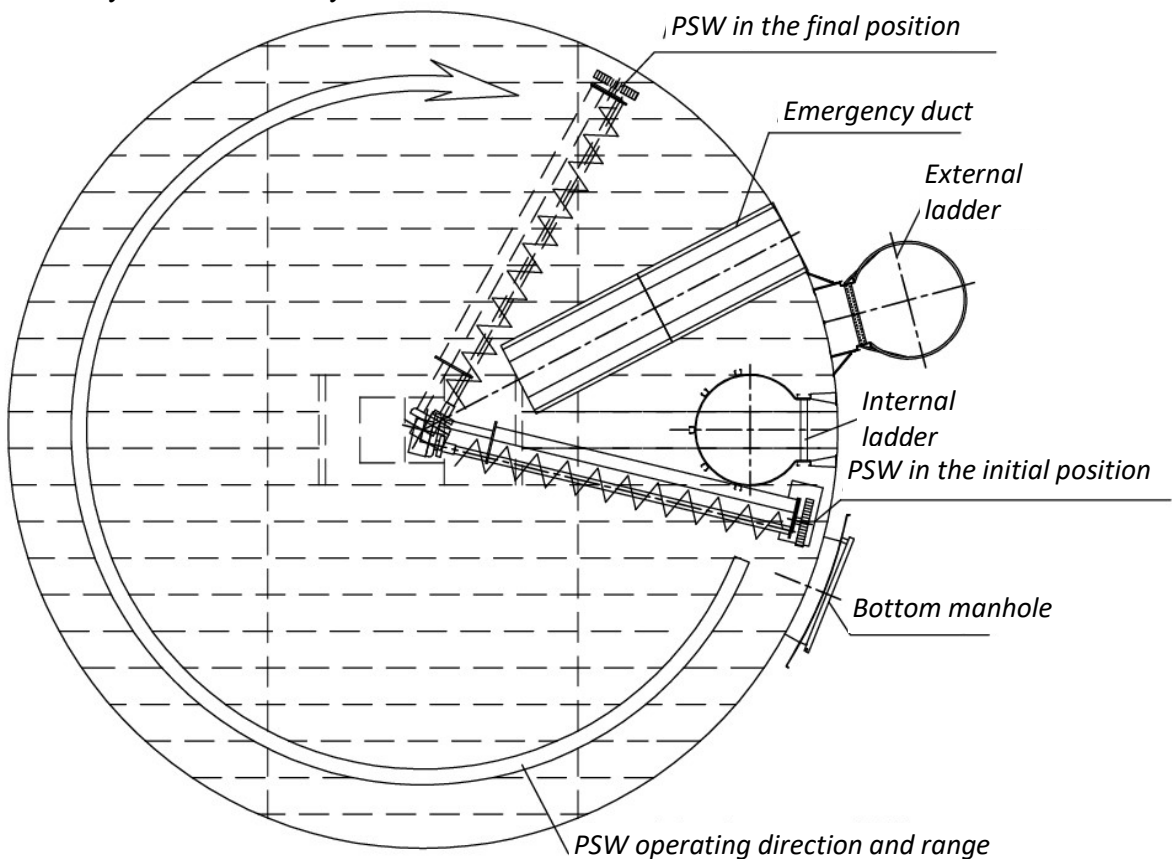

Figure 9. A diagram showing the PSWEX conveyor setting in a silo equipped with an internal ladder and an on-floor emergency duct.
- In silos equipped with an internal ladder, an emergency duct, or similar equipment, the conveyor performs the incomplete rotation in the silo (Figure 9). PSWEX stops to operate before devices installed in the silo, after driving onto the braking wedge (Figure 1, Item 22). The reverse movement of the PSWEX conveyor is necessary for it to return to its initial position.
- 1.17 In silos with internal equipment Figure 9 the PSWEX conveyor can be kept moving until its rotation is stopped by the braking wedge (Figure 1, Item 22) installed on the silo floor.